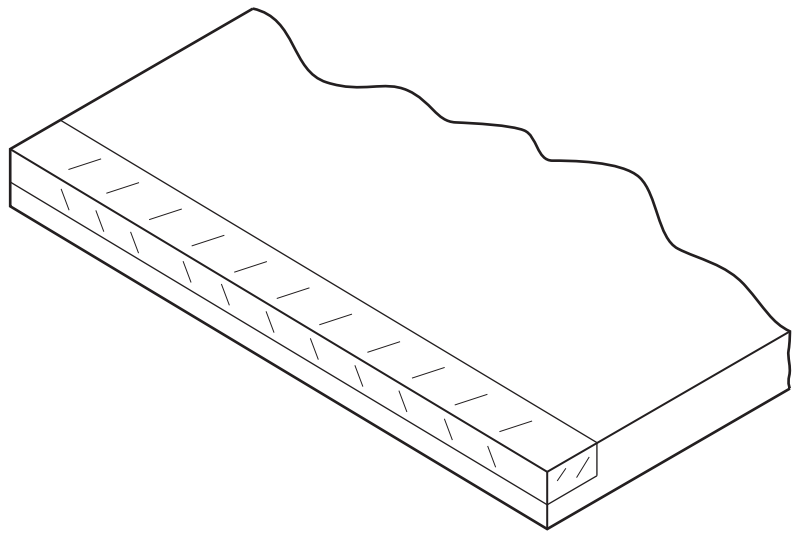

Fig. 11
(c) A lapped joint is used to join the sides together at each corner. Fig. 11 shows part of a sheet of material with a lapped joint marked out.
- (i) Indicate clearly, on Fig. 11, **one** line that would be marked out using a marking gauge and **one** line that would be marked out using a cutting gauge. [2]